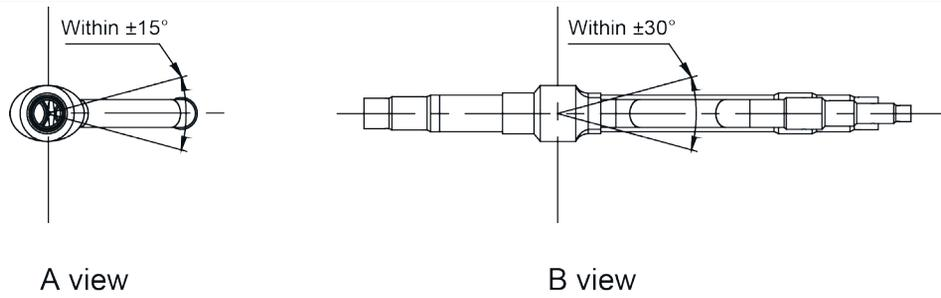
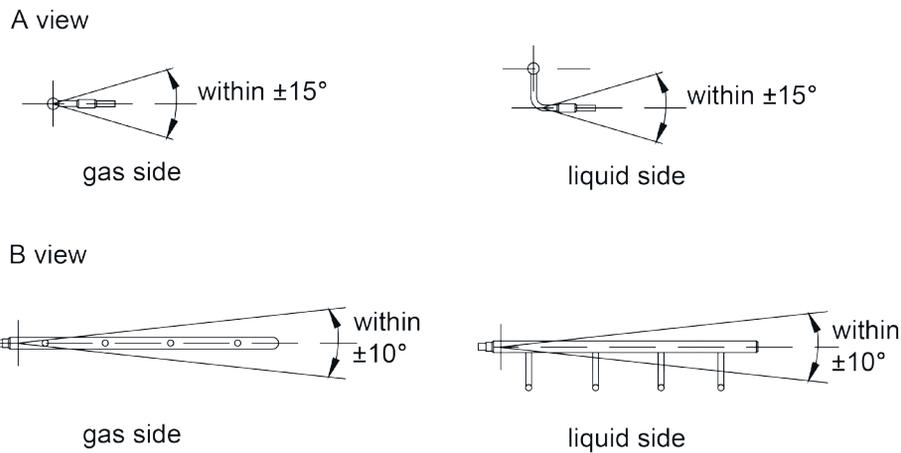

Fig.4.4.5
Fig.4.4.6
- (3) Y-type manifold can be installed vertically or horizontally. Confirm the position and then weld the manifold pipe. See the Fig.4.4.5. T-type manifold must be installed horizontally with inclination, see the Fig.4.4.6.